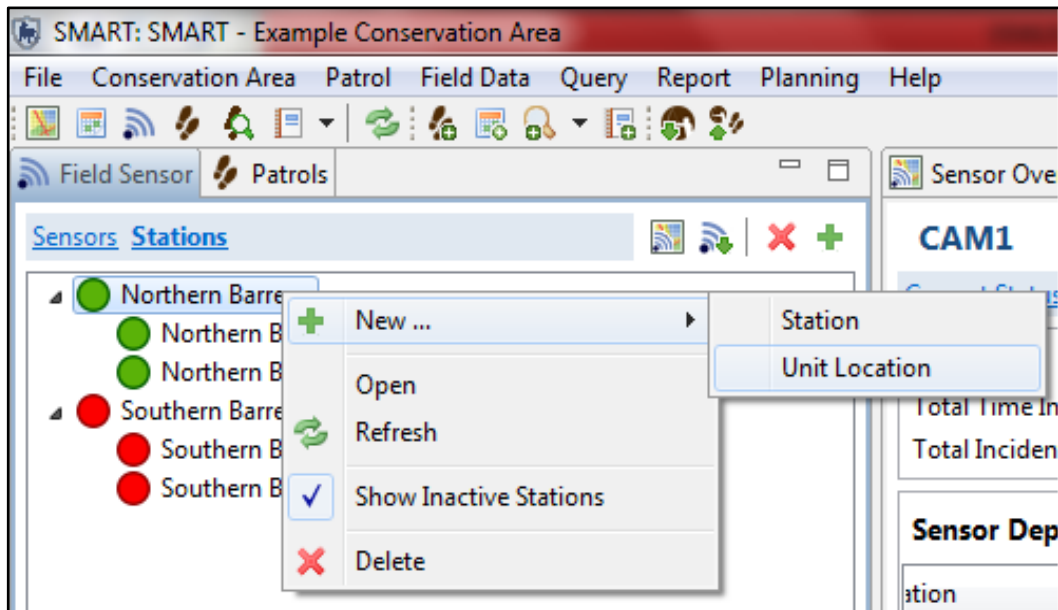

Figure 3.13: Location creation in the Stations view of the field sensor panel.
- Right click on an existing station in the field sensor perspective and select **New ▢ Unit Location** (Figure 3.13). The remaining steps of the procedure are the same as described above.